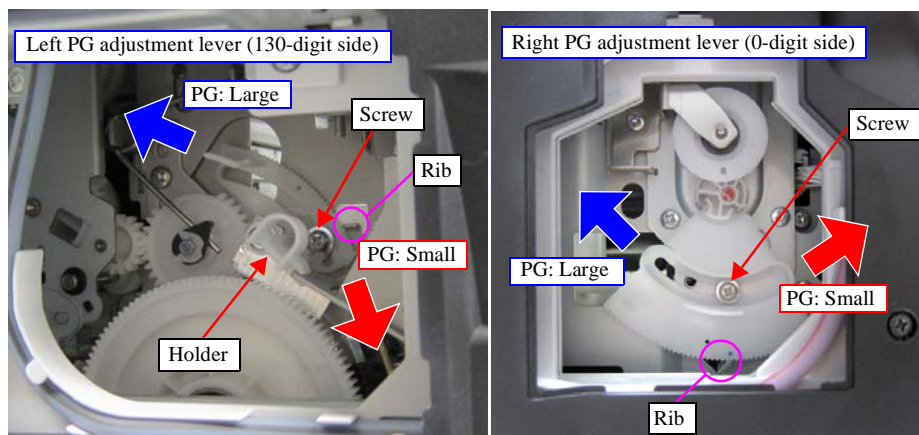

Figure 7-6. PG Adjustment Cam
- 3-1. Move the CR unit to the center part of the printer, and move the PG adjustment cam on the 0-digit side by one notch (**Figure 7-6**) in the “-” direction.
- 5-1. Move the CR unit to the center part of the printer, and move the PG adjustment cam on the 0-digit side by one notch (**Figure 7-6**) in the “+” direction.
- 2-1. Move the CR unit to the center part of the printer, and move the PG adjustment cam on the 0-digit side by one notch (**Figure 7-6**) in the “-” direction.
- 4-1. Move the CR unit to the center part of the printer, and move the PG adjustment cam on the 0-digit side by one notch (**Figure 7-6**) in the “+” direction.